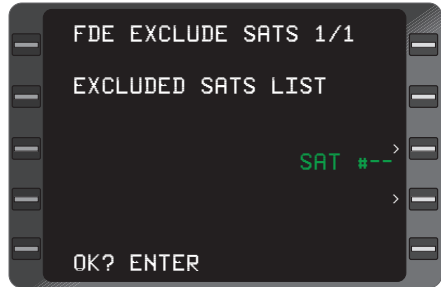

Figure 2-59
- **START CALC? ENT:** This is displayed when the aircraft is on the ground and all data has been entered. Pressing **ENT** will start the FDE calculation and display **PLAN 7/8 FDE COMPUTATION**. See Figure 2-59